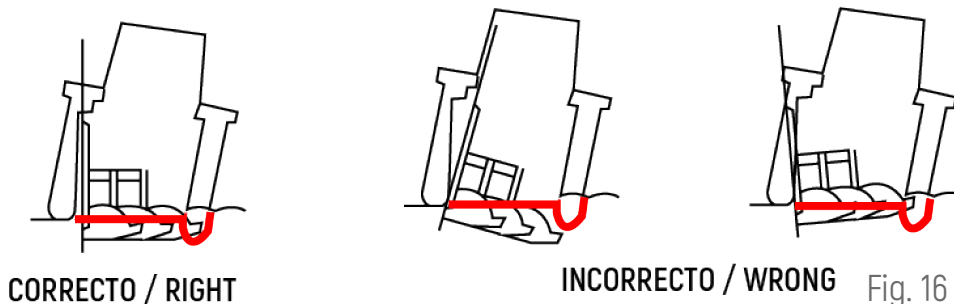
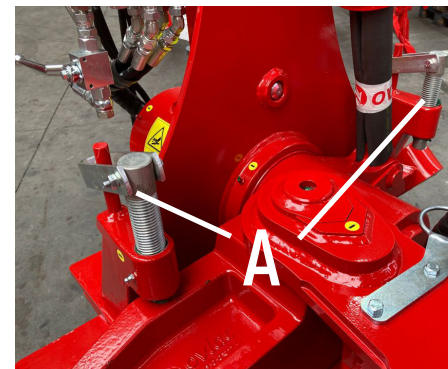

Fig. 16
Fig. 17
As a starter point, after regulating the perpendicularity of the ANCHOR according to the terrain, acting over the turning tops A (Fig. 17) we'll settle a working width of 40-45 cm and then we'll place the point of the first body around 40 cm of the inside of the wheel as indicated on the right image in fig. 13.
For the same reason, you must check (while laboring) that the anchors adopt a perpendicular position to the ground (Fig. 16). For that, we need the tines of the tractor to be at the same height AND ACT OVER THE TURNING TOPS (A) FOUND AT BOTH SIDES OF THE HEADSTOCK (Fig. 17).